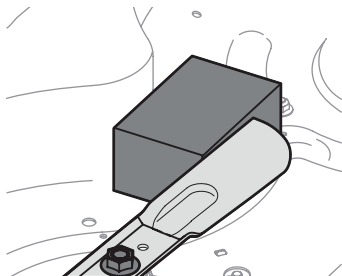

Figure 24
- Place a block of wood between the deck housing baffle and the cutting blade to act as a stabilizer (Figure 24).